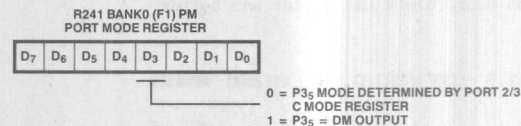

Figure 12-6. Data Memory
The two external memory spaces, data and program, can be addressed as a single memory space or as two separate spaces. If the memory spaces are separated, program memory and data memory are logically selected by the Data Memory select output (DM). DM is made available on Port 3, line 5 (P3₅) by setting bit D3 in the Port Mode register to 1 (Figure 12-6).